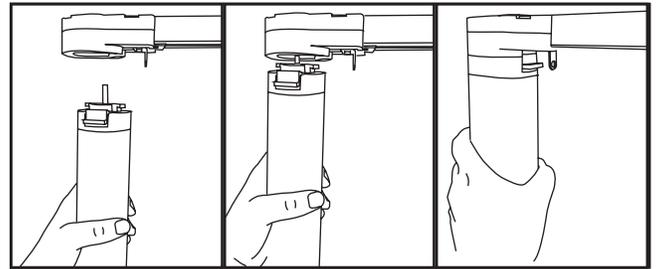

Figure 2.4.2 - Attach primary motor
4.2 - On a dual drapery, insert the Primary motor shaft onto the motor end of the window side drapery track and twist the motor into place. Motor is not secure until you hear a click. See Figure 2.4.2.